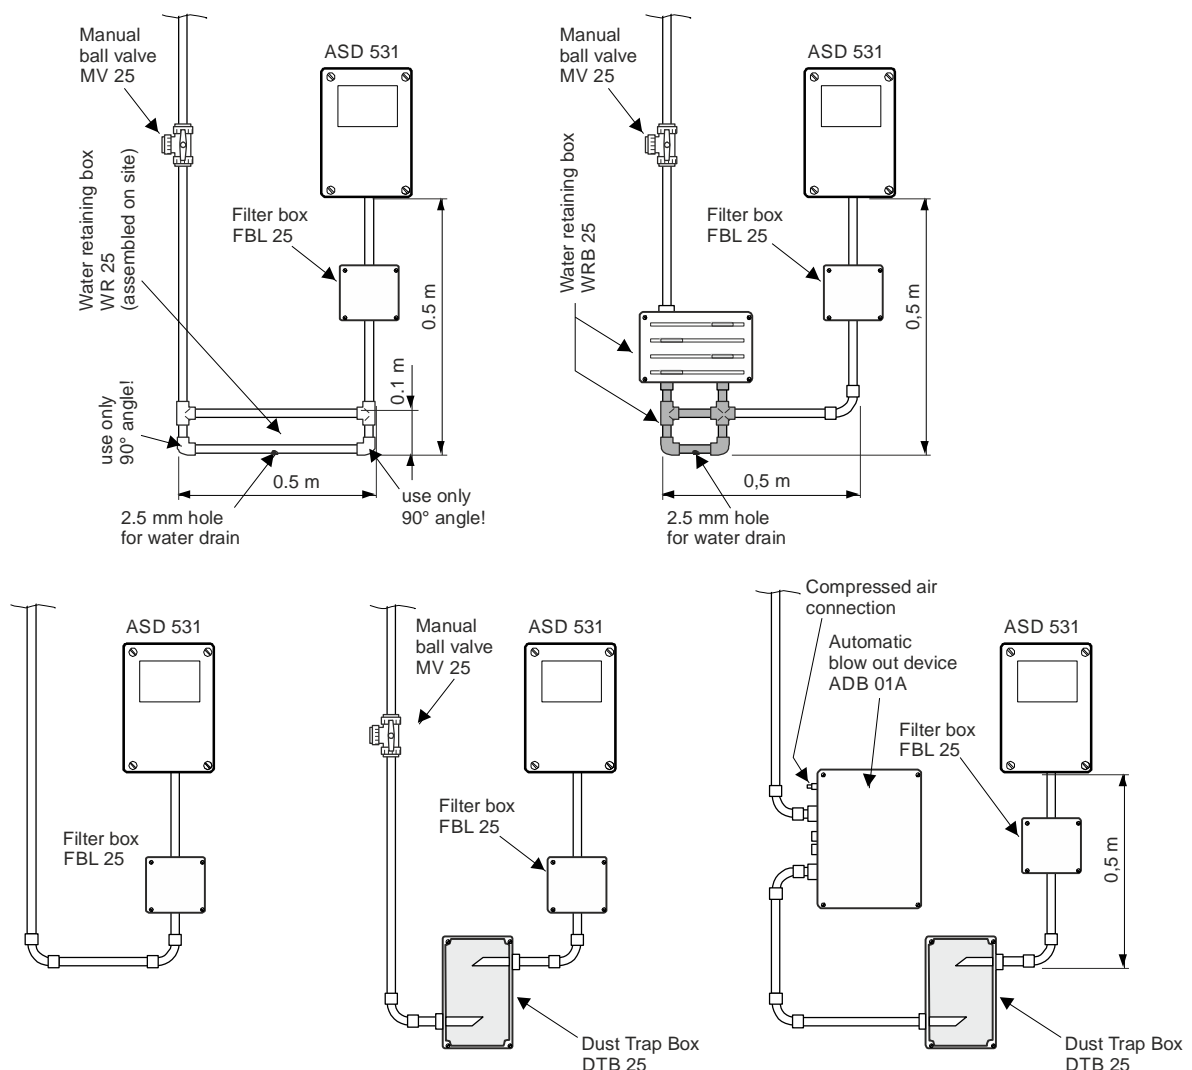

Fig. 44 Mounting accessory parts
- The mounting positions for the water retaining box, dirt trap box and dust retaining box must be observed as indicated in Fig. 44.